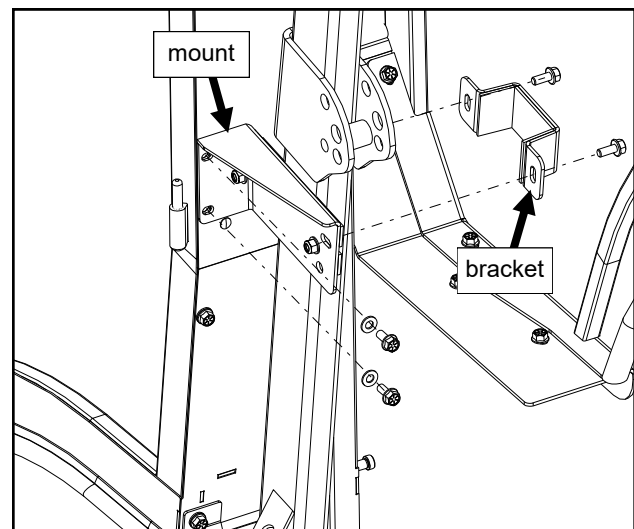

Fig. 8.1 (ROPS bracket installation - left)
8.1 Install the left ROPS mount onto left sideframe (through the rear leg of a premium cab). Next, install ROPS bracket onto mount—no plastic washer on bracket. See fig. 8.1. Repeat the process for the right ROPS mount and bracket.